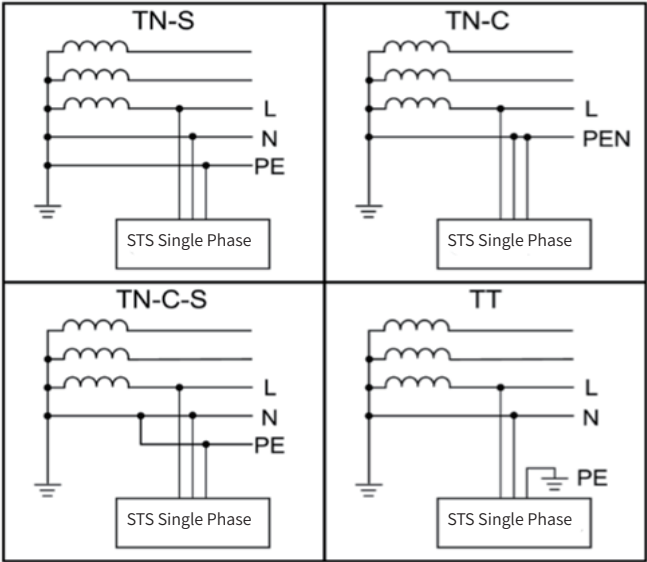

Figure 3-1 Applicable grid type
- The applicable grid types for the Sunways STS 1~3kW-S series are TN-S, TN-C, TN-C-S and TT. When applied to the TT grid, the voltage of N to PE should be less than 30V. See Figure 3-1 for details: